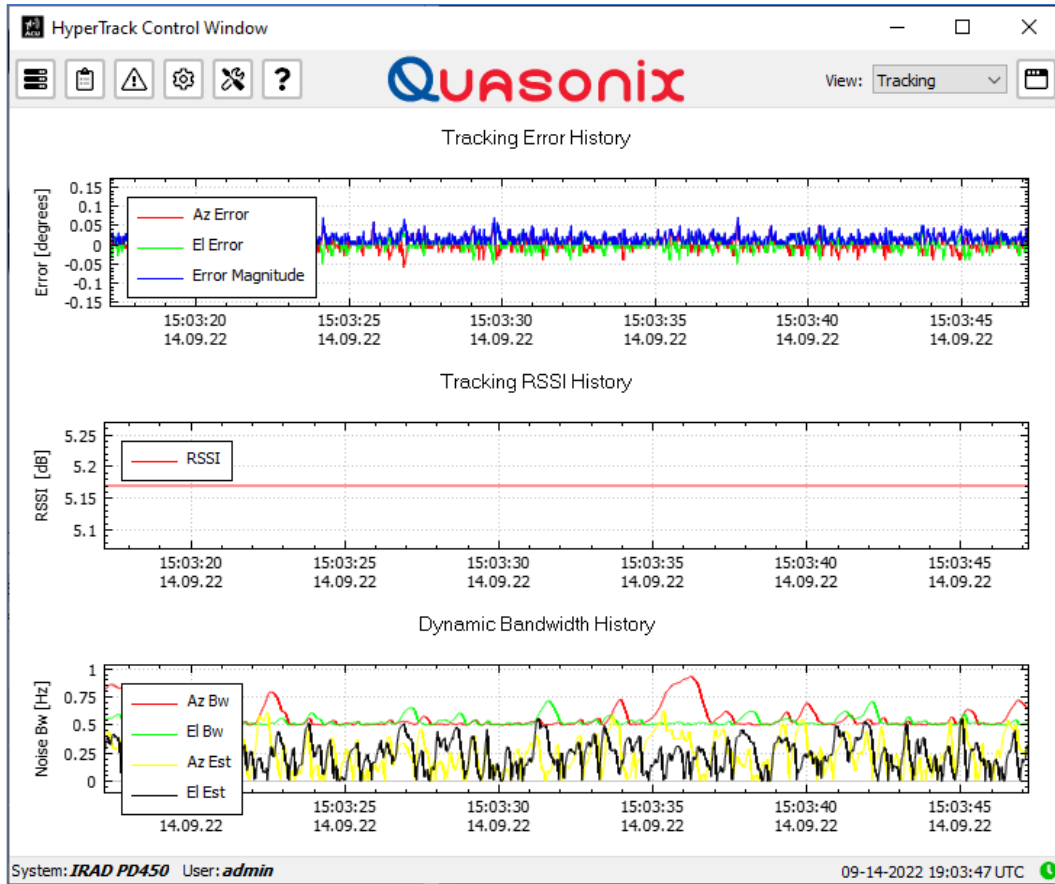

Figure 82: Tracking History Charts
Tracking view opens three (3) tracking history charting tools, as shown in Figure 82. The available charting tools are: